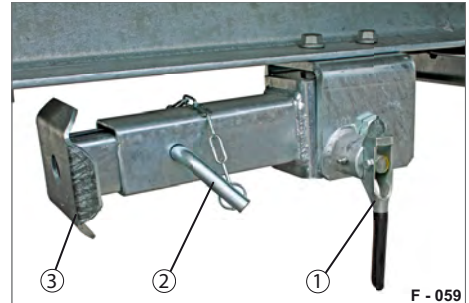

Fig. 43 Drive position
- ▶ Check that both folding supports are in drive position before departing (see Fig. 43).